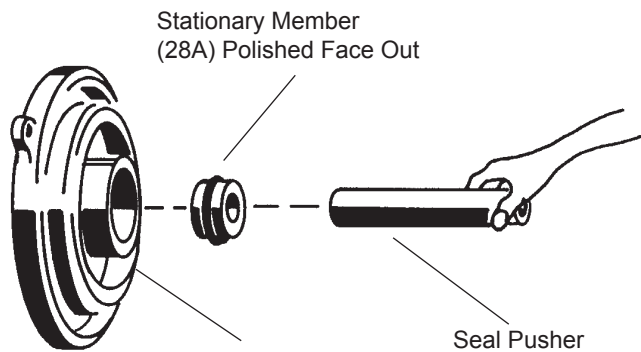
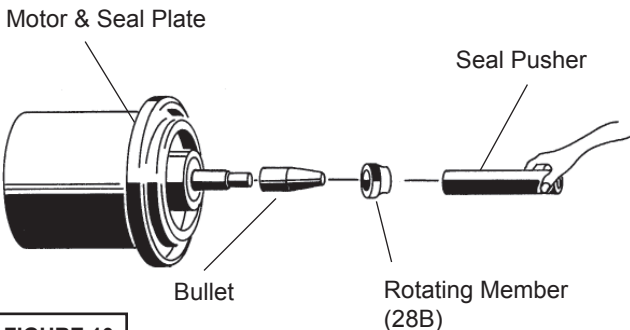

FIGURE 9 Seal Plate (5) for L series and (29) for DS series
FIGURE 10
Inner Seal (DS Units Only)- Clean and oil seal cavities in seal plates (5, 29). Lightly oil (**DO NOT use grease**) outer surface of stationary member (28a). Press stationary member (28a) firmly into inner seal plate (5), using a seal pusher (see parts list - seal tool kit). Nothing but the seal pusher is to come in contact with seal face (see Fig 9).
Make sure the stationary member is in straight. Slide a bullet (see parts list - seal tool kit) over motor shaft. Lightly oil (**DO NOT use grease**) shaft, bullet and inner surface of bellows on rotating member (28b) see Figure 10. With lapped surface of rotating member (28b) facing inward toward stationary member, slide rotating member over bullet and onto shaft, using seal pusher, until lapped faces of (28a) and (28b) are together (see Figure 9).